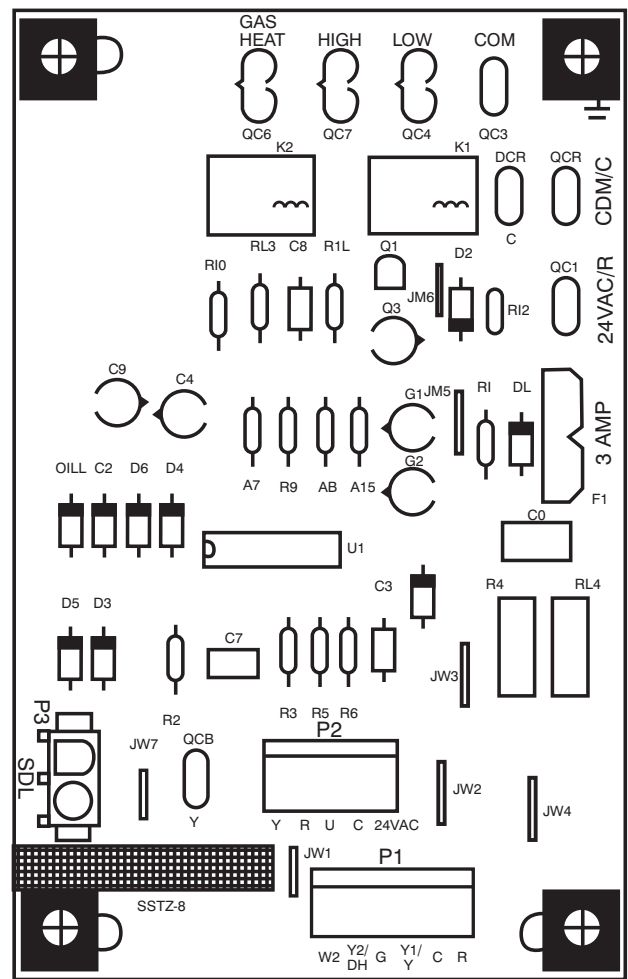

Fig. 20 - Interface Fan Board (IFB)
This unit is factory-set for use with a single cooling fan speed. For single phase models, the cooling speed is marked "COOL" on the IGC (See Fig. 19). For 3-phase models, the cooling speed is marked "LOW" on the interface board (IFB) (See Fig. 20). The factory-shipped settings are noted in Tables 10 and 11. There are up to 3 additional speed tap wires available for use in either gas heating mode, cooling mode, or continuous fan mode (For color coding on the indoor fan motor leads, see Table 8). For single phase models, one of the additional speed tap wires is connected to the continuous fan, with the other 2 wires shipped loose in the control box near the IGC. For three phase models, the additional 3 speed tap wires are shipped loose with vinyl caps and are located in the control box near the interface fan board (IFB) (See Fig. 20).
2. Remove the current speed tap wire from the “LOW” terminal on the interface fan board (IFB) (See Fig. 20) and place vinyl cap over the connector on the wire.
1. Remove fan speed tap wire from the “LOW” terminal on the interface fan board (IFB) (See Fig. 20).
When the DEHUM feature is not used, the continuous fan speed will be the same as cooling fan speed. When the DEHUM feature is used, the continuous fan will operate on IFB “LOW” speed when the DH control lead is not energized, or IFB “HIGH” speed when the DH lead is energized (see Fig. 20).